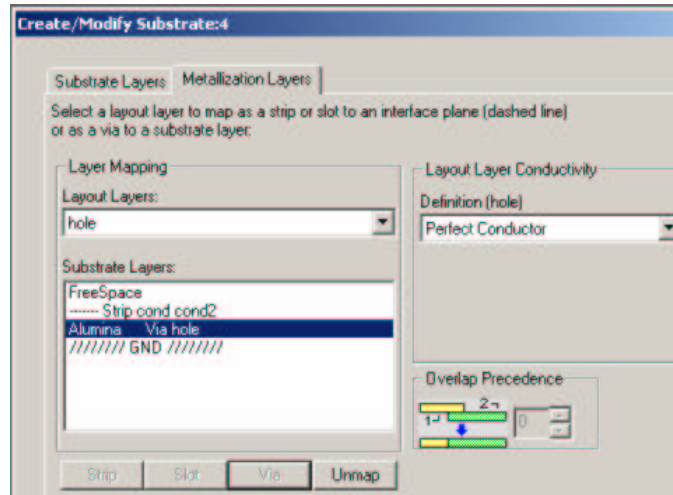

Figure 8: Modified substrate menu
- 1) First select **Momentum à Substrate à Create/Modify** then hit the **Metallization Layers** tab. Go to “-----Strip cond” under the *Substrate Layers* menu, choose **cond2** (or whatever layers you used for the top and bottom), and click the **Strip** button. Now go to “Alumina” under the same menu, choose **hole** (or whatever layer you used for the vias), and click the **Via** button. The menu should now look similar to figure 8.